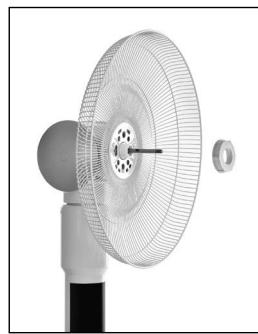

Fig. 5
7. Fasten the rear protection grid using the rear nut (4). To do that, turn the rear nut clockwise towards "Tighten". (*Fig. 5*)